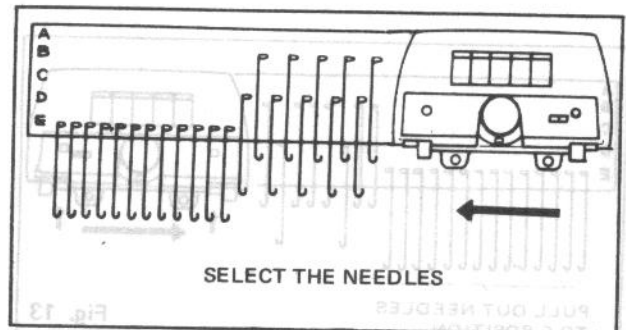

Fig. 18
6. Select the needles according to the relative knitting diagram and knit one row. (Fig. 18)